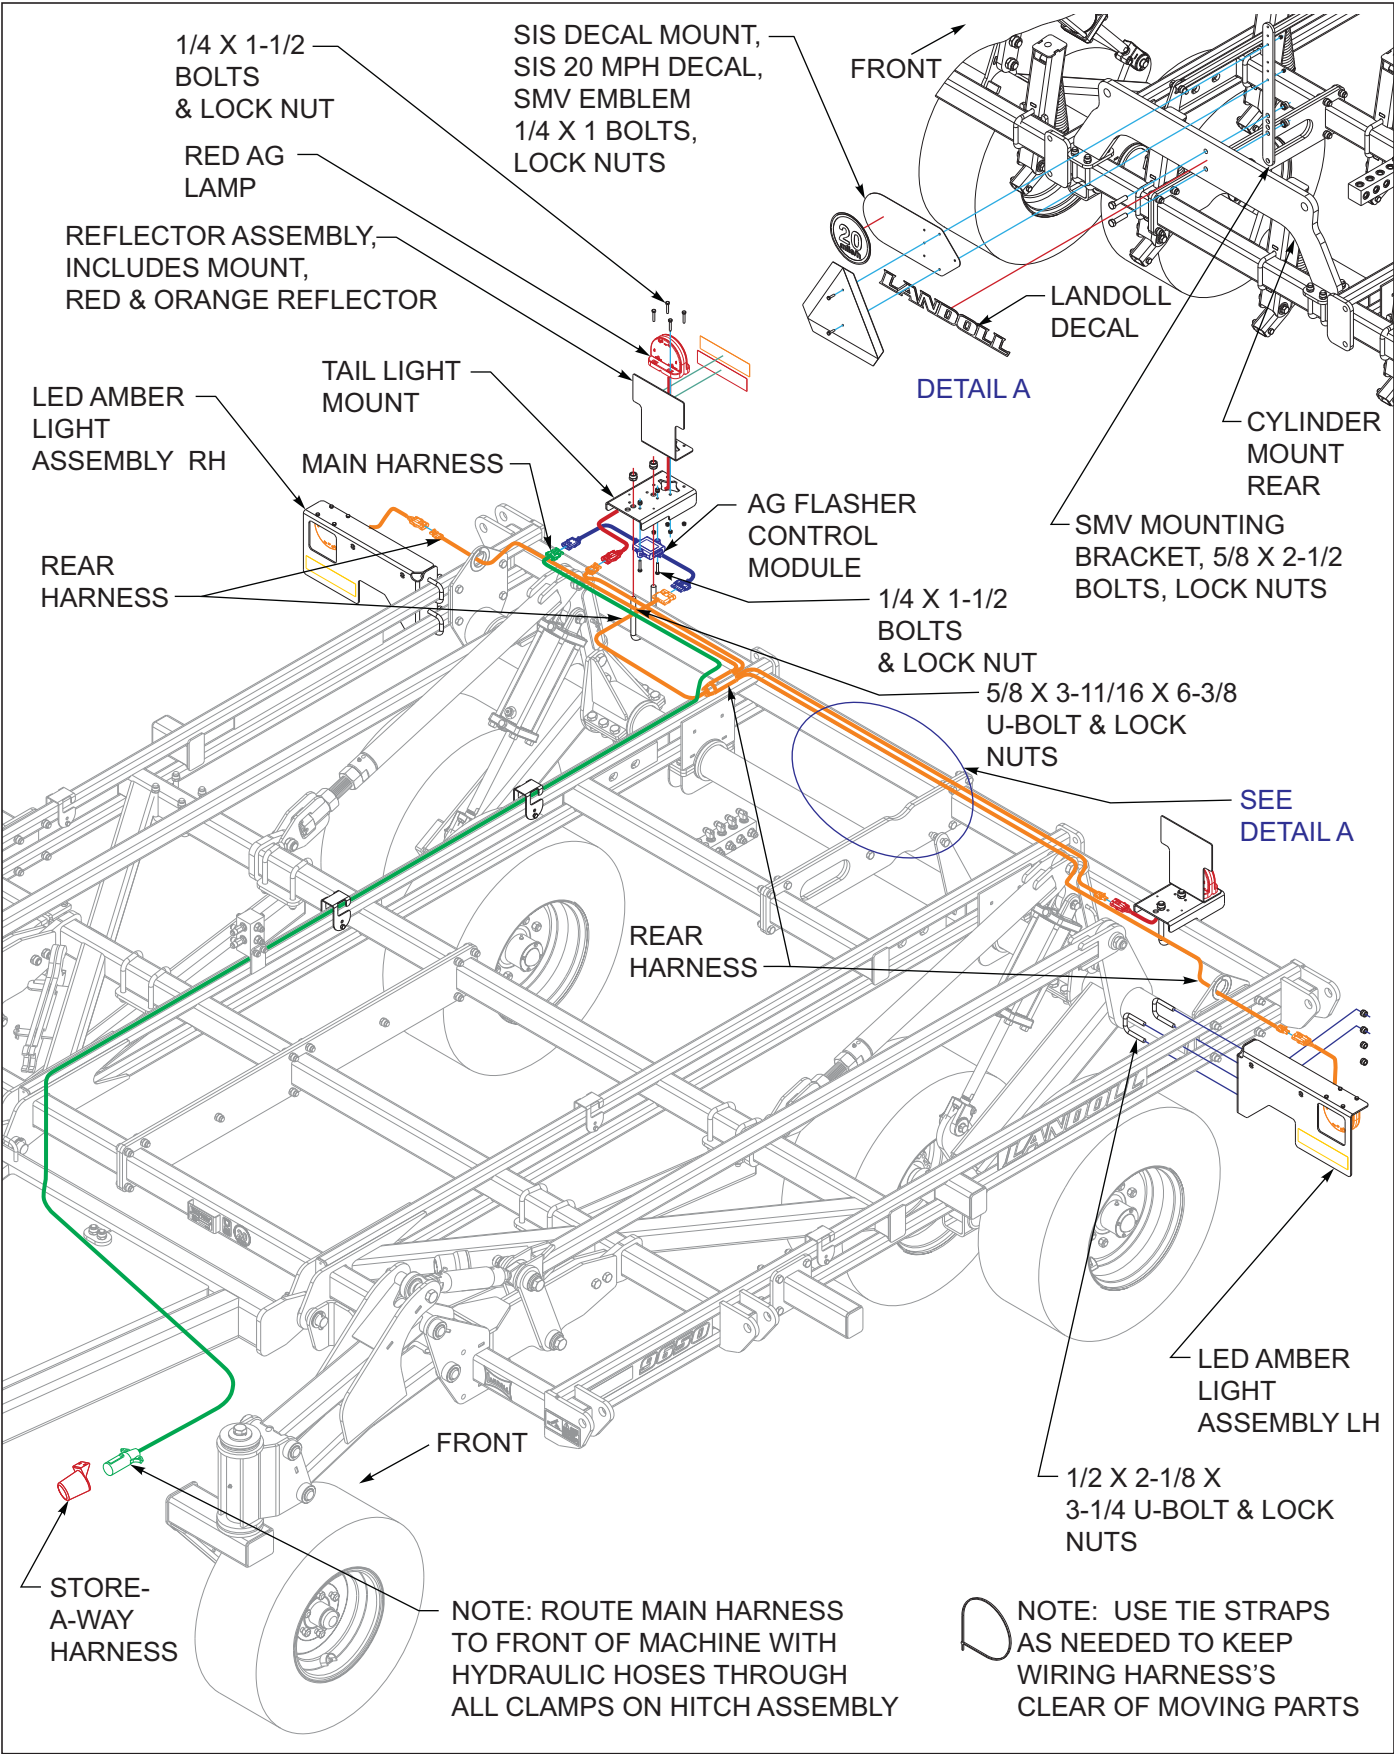
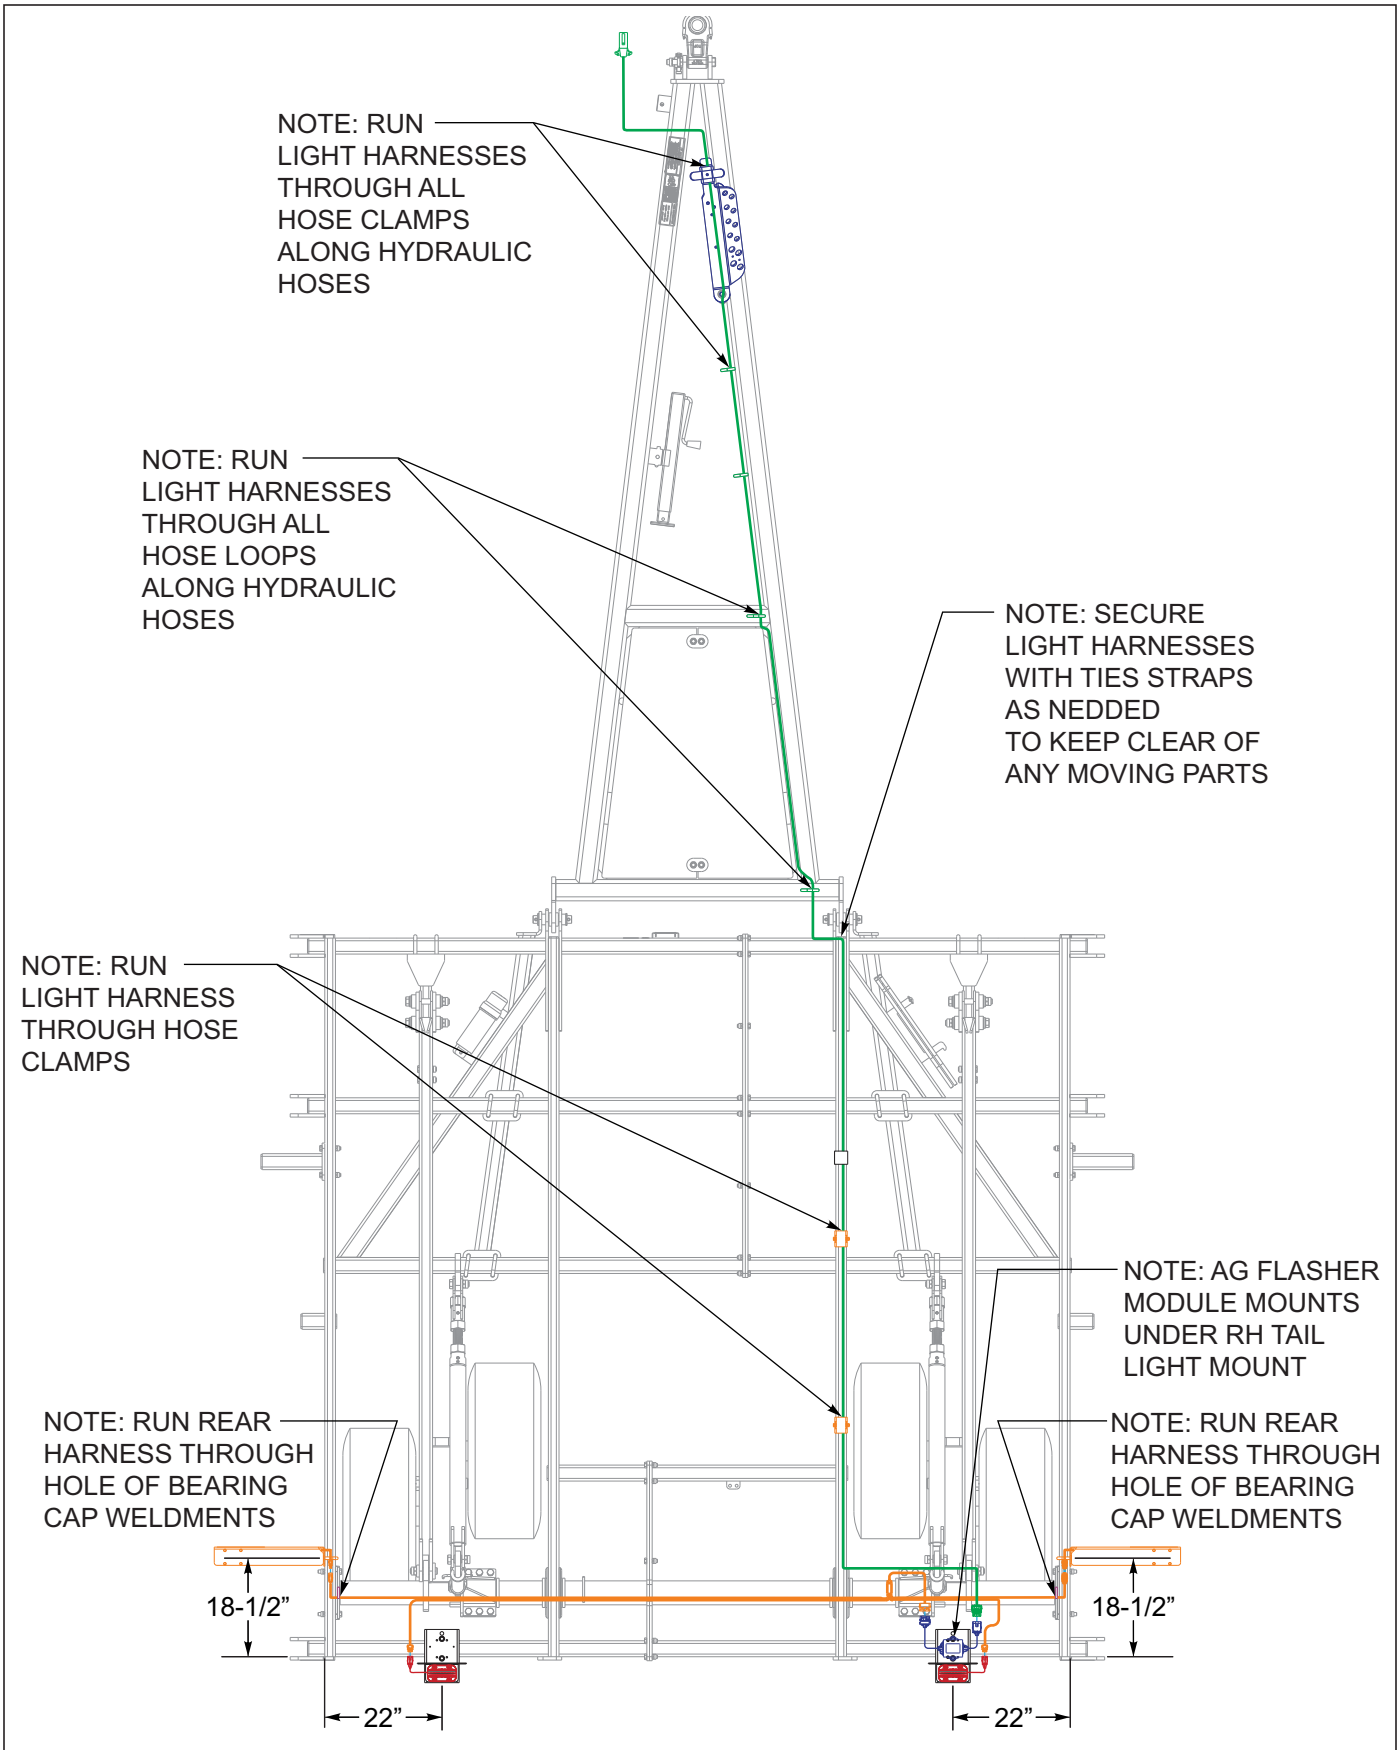

Figure 3-24: LED Light Installation
Figure 3-25: LED Light Layout
1. Attach LH and RH light bracket assemblies to center frame using 1/2 x 2-1/8 x 3-1/4 u-bolt and lock nuts **See Figures 3-24** and **See Figures 3-25** for light bracket placement location.
9. Insure that the harnesses are clear of any moving parts and secure the harnesses with tie straps provided. **See Figures 3-25** for light harness routing.
11. Attach the smv mounting bracket to front side cylinder mount rear with 5/8 x 2-1/2 bolts and 5/8 lock nuts **See Figures 3-24** Detail A.